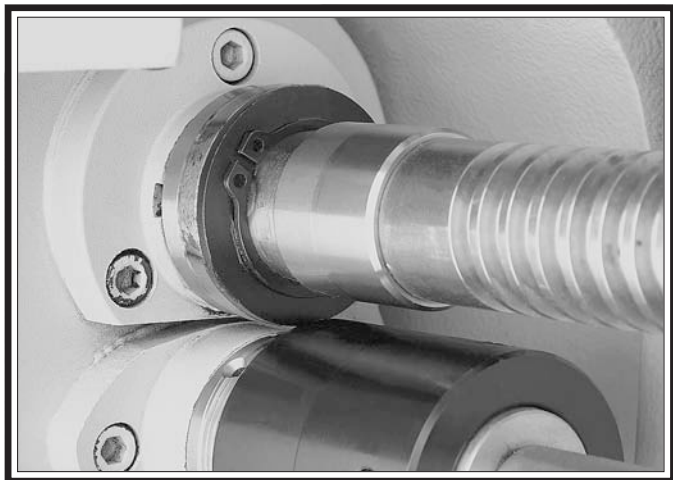

Figure 137. Retaining ring positioned with ears in front of pin access groove.
11. Return the retaining ring against the shroud washer and position the retaining ring ears over the shear pin head, as shown in **Figure 137**. This will prevent the shear pin from falling out if the shroud washer should rotate during operation.